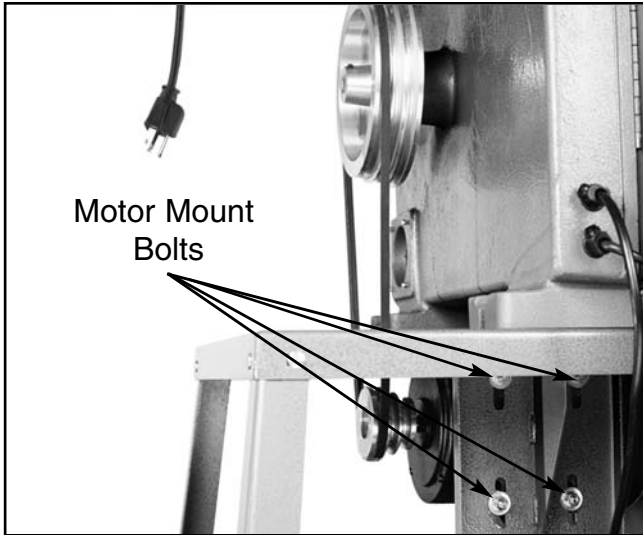

Figure 9A. Motor mount bolt locations.
1. Situate the motor so the V-grooves on the motor pulley approximately line up with the V-grooves on the three-step pulley. You may need to loosen the motor mount bracket bolts shown in **Figure 9A** to position the motor properly. Tighten the mount bracket to the stand before moving on to the next step. Leave the motor mount bolts loose.